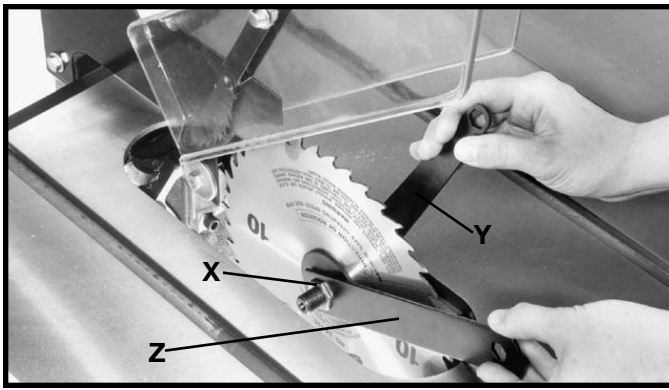

Fig. 23
11. Reassemble the saw blade, making certain the teeth are pointing down at the front of the saw table as shown in Fig. 23, and assemble the outside blade flange and arbor nut (X). With open end wrench (Y) on the flats of the arbor to keep it from turning, tighten arbor nut by turning box end wrench (Z) counterclockwise.